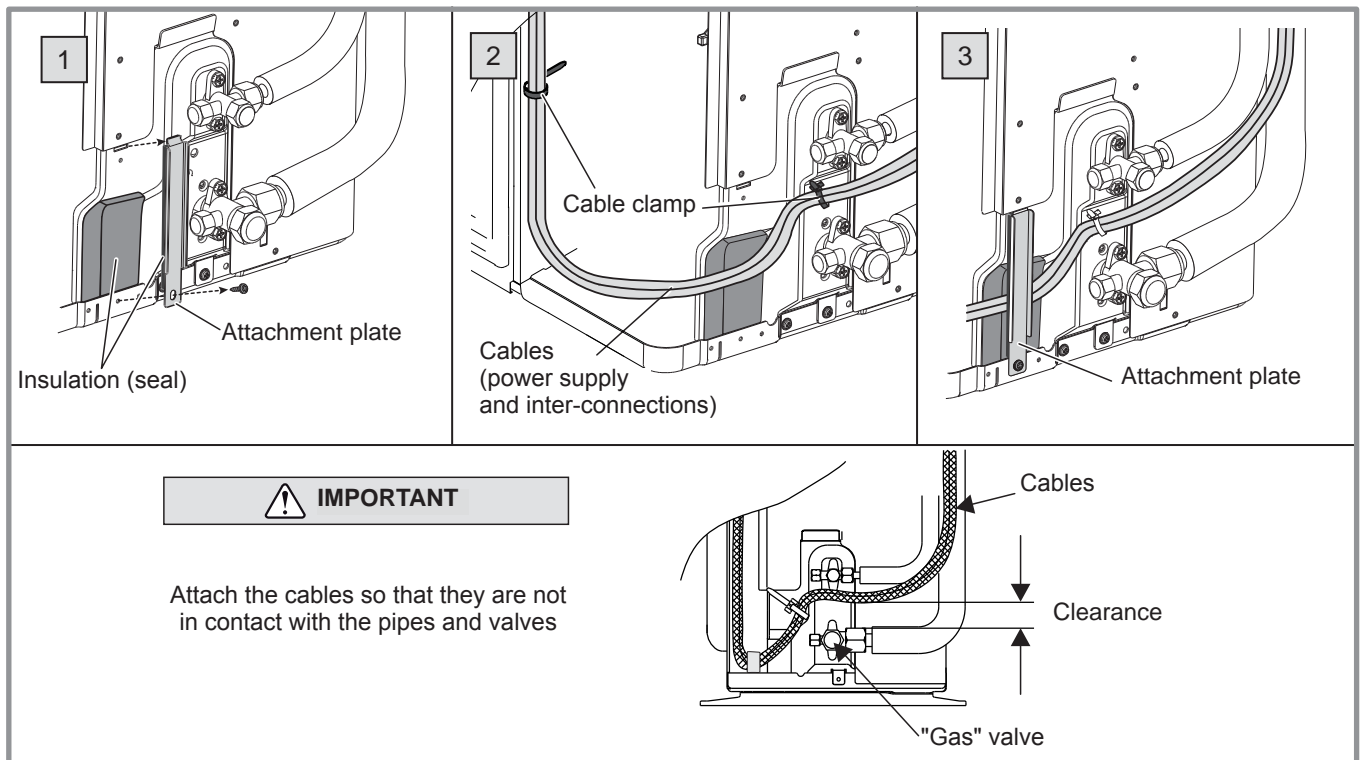

figure 32 - Finalise the connection of the outdoor unit
- Use the attachment plate to hold the cables against the insulating plate (figure 32).